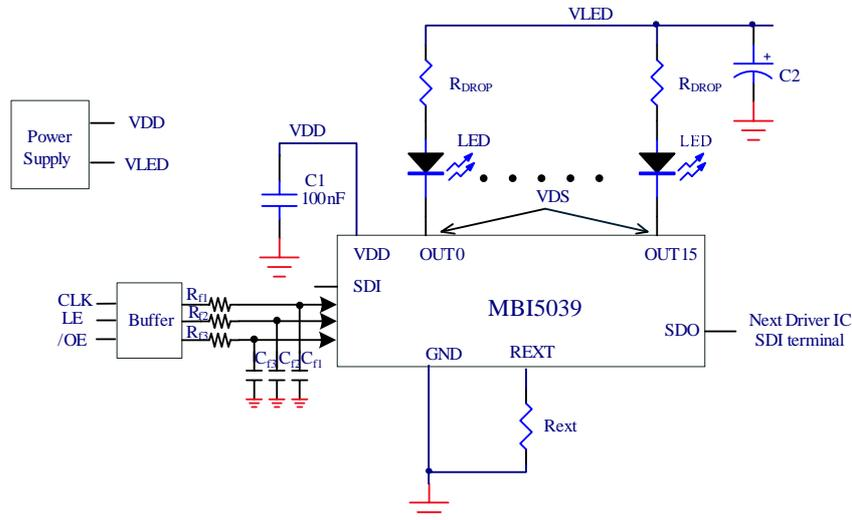

Figure 1. MBI5039 application circuit
Figure 1 is the application circuit of MBI5039, which is compatible to MBI5025/5026/5027/5028/5029.
The value of  $V_{LED}$  is usually a concern when using constant current driver IC. If  $V_{DS}$ , as Figure 1 shows, is higher than the saturated (knee) voltage of constant current, it will cause overheating. However, if there is no sufficient voltage for output, the current of the output will not be constant. The suggestions for circuit design are below:
If the  $V_{LED}$  is an integer voltage (ex. the voltage of transformer is usually an integer one), the extra voltage ( $V_{DROP}$ ) needs to be consumed by the drop-down resistor ( $R_{DROP}$ ) cascaded with LEDs as shown in Figure 1. The value of the resistor can be calculated by following (3) and (4).